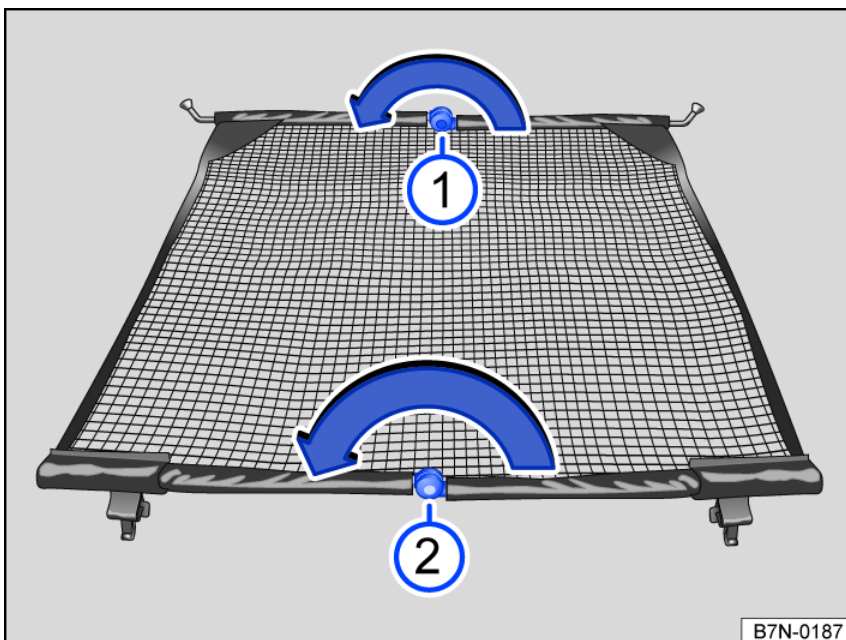

Fig. 162 Folding in the net partition.
- Press the release button and, with the release button held down, fold in the crossbar in the direction of the arrow *fig. 162* ①.
- Repeat the process with the other release button *fig. 162* ②.